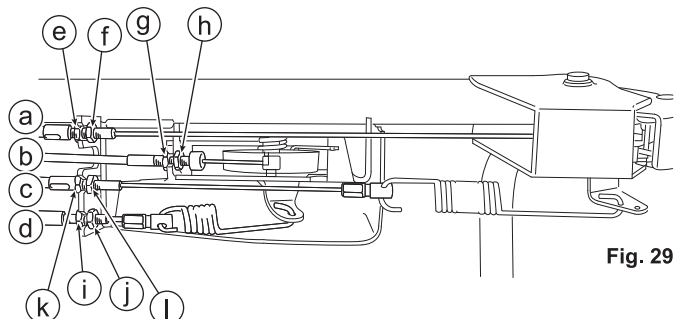

Fig. 29
8.6.1 Throttle Lever (See Figs. 29 and 30)
8.6.2 Blade Lever (See Figs. 29 and 31)
3. Confirm that the blade stops completely when the blade lever (C) is released.
8.6.3 Drive Clutch Lever (See Figs. 29 and 32)
3. Confirm that the machine can be pull backward when the drive clutch lever (B) is released.
8.6.4 Gearshift Lever (See Figs. 29 and 33)